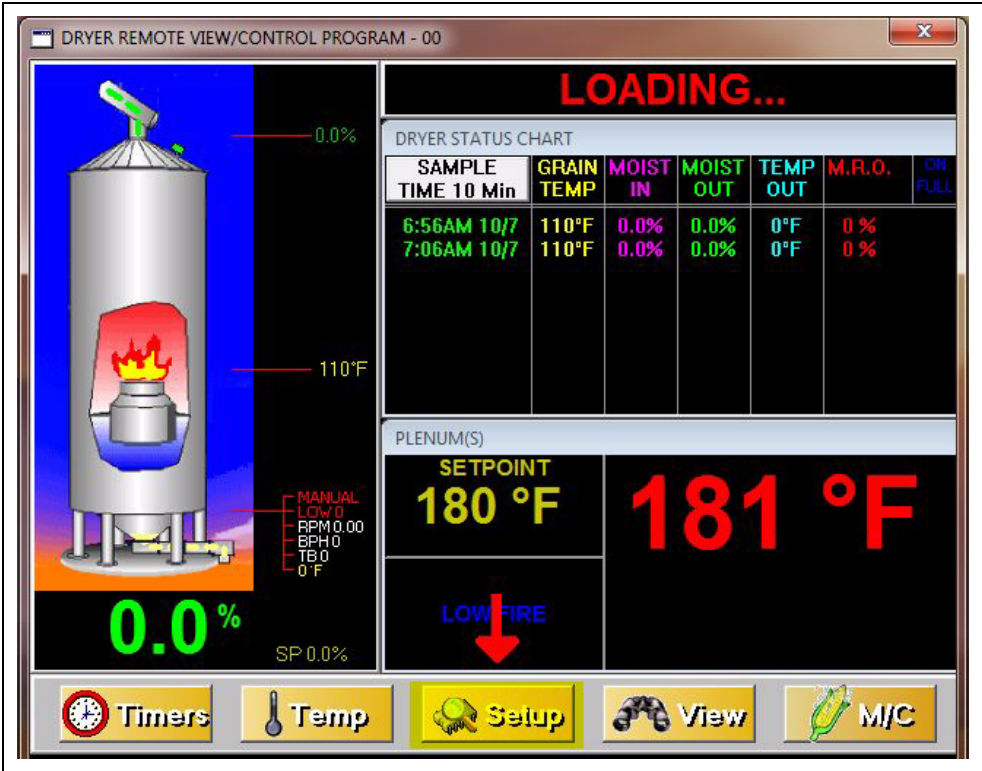

Figure 3C
3. Select Setup on main screen. (See Figure 3C.)